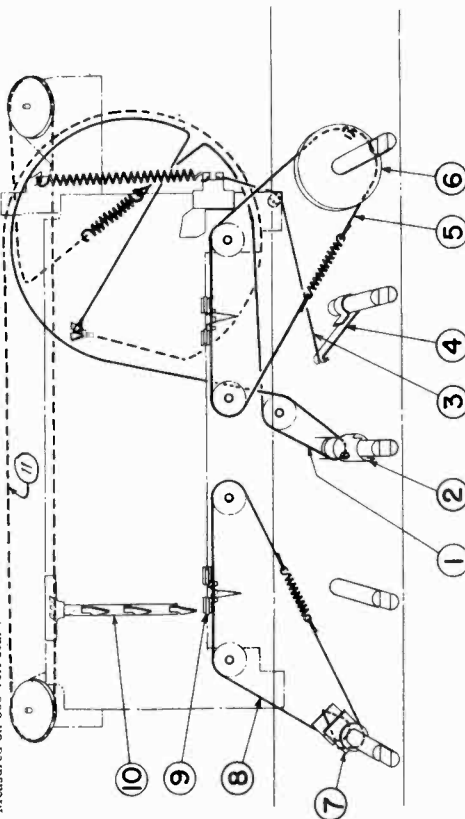

Fig. 7 Dial Mechanism
To replace the wire pointer drive cable (11), set the drive drum to the relative position as shown in Fig. 7. Loop the cord over the tab on the drum, and thread it around the drive pulley and idler pulleys and back to the tension spring on the drive drum. Slide the pointer (10) in place, as shown, but do not solder. Replace the dial scale and rotate the gang until the plates are fully meshed. Slide the pointer until it coincides with the left end of the extreme band. Rotate the dial and solder it to the wire cable (11).
First set the tone control switch so that the pulley (6) is in the position shown. Thread the cable (5) as shown in Fig. 7 around the drive pulley (6), loop it in the notch as shown, then around the idler pulleys. Fasten the ends in the tension spring. Be sure that the tension spring does not touch either the idler or the drive pulley when the tone control is in either of the extreme positions. Re-adjust the spring so that it is in place by rotating the bracket (4) on the band switch shaft.
The dial mechanism (Fig. 7) is rigidly mounted to the chassis by means of two brackets and four self-tapping screws. The gang condenser is operated by means of the "Automatic Vernier" drive mechanism. The drive cable (5) is connected to the gang drive drum by a cable which passes around two idler pulleys. The pointer is guided on a rail in the rear of the dial scale. The following instruction will aid in making repairs to this mechanism.
To replace the drive cable (1), set the drive drum to the relative position as shown in Fig. 7, loop the cord over the tab on the drum, then thread it once around the vernier drive pulley (6).
Thread the cable (8) around the drive pulley (7) as shown in Fig. 7. Fasten the loops of the cable into the tension spring. To adjust the pointer, turn the control to the extreme clockwise direction and set the pointer so that the left-hand side of the pointer coincides with the left-hand edge of the rail. Crimp the pointer tab on the drive cable. A final adjustment of the volume control shaft after the scale has been replaced.
The threading and assembly of the band indicator is self-explanatory from an inspection of Fig. 7. It must be adjusted